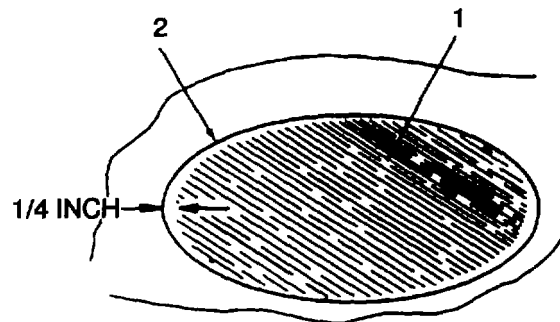

Figure 2-26. Applying Adhesive Mixture Over Buffed Area
(6) Stir adhesive mixture with tongue depressor (item 5, table 2-11) for approximately 5 minutes. Make certain components are completely blended together.
(7) When performing loose fitting flange and interior loose seam damage repairs dean, buff, dean and cement loose flange contact surfaces and apply pressure with masking tape for at least a minimum of 12 hours. Remove masking tape and clean area with acetone, using clean cloth (item 16, table 2-11). Wear gloves (item 4, table 2-11).
(8) Carefully apply a thin uniform coat of adhesive mixture (1, figure 2-26) over buffed area (2) to no more than 1/4 inch of O.D. of buffed area. Use a brush (item 6, table 2-11). Smooth surface with gloved fingers wet with acetone (item 3, table 2-11). Remove any excess adhesive from unbuffed area. Use clean cloth (item 16, table 2-11) dampened with acetone (item 3, table 2-11). Wear gloves (item 4, table 2-11).
(h) Carefully apply a uniform (liberal/heavy) coat of repair adhesive (1, figure 2-26) to no more than 1/4 inch of O.D. of buffed area (2). Use a brush (item 6, table 2-11). Smooth surface with gloved fingers wet with acetone (item 3, table 2-11) and remove any excess adhesive from unbuffed area with a clean cloth (item 16, table 2-11) and acetone (item 3, table 2-11). Wear gloves (item 4, table 2-11).
(g) Apply a light coat of adhesive mixture (1, figure 2-26) over buffed repair area to no more than 1/4 inch of O.D. of buffed area (2). Use a brush (item 6, table 2-11). Smooth surface with gloved fingers wet with acetone (item 3, table 2-11) and remove any excess adhesive from unbuffed area. Use dean cloth (item 16, table 2-11) dampened with acetone (item 3, table 2-11). Wear gloves (item 4, table 2-11). Allow to air cure for approximately 30 minutes.